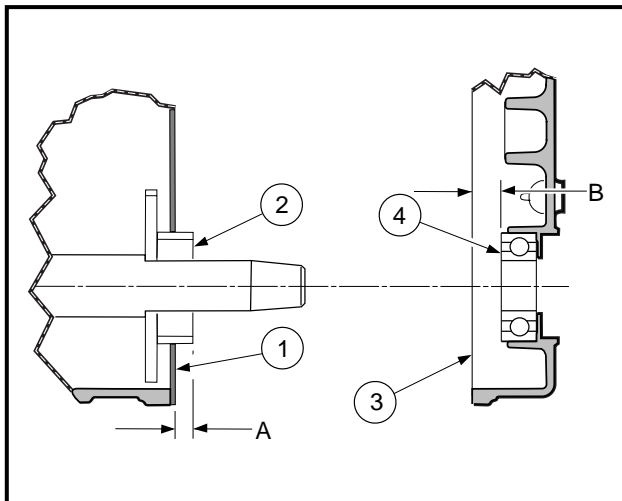

Figure 13-99 Determine Crankshaft Shim Size
1. With the gasket installed on the crankcase, measure from the gasket surface (1) to the helical gear surface (2). Record measurement (A) (**Figure 13-99, Page 13-45**).
2. Measure from the crankcase cover (3) mounting face to the crankshaft bearing inner end (4). Record measurement (B) (**Figure 13-99, Page 13-45**).